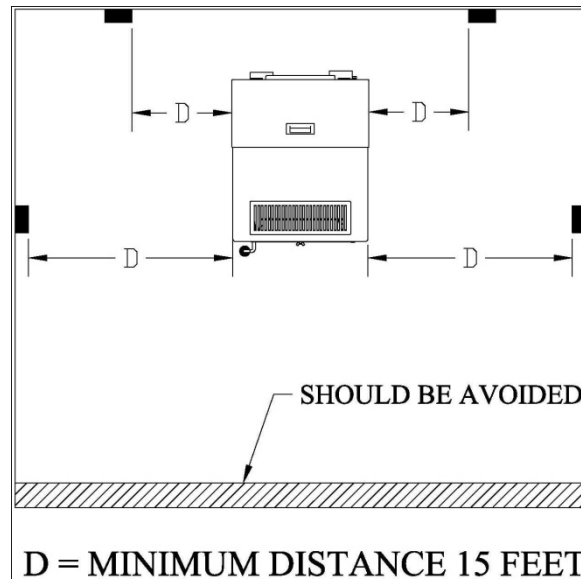

FIGURE 19
- If you are using a wireless wall thermostat or a hand held thermostatic remote control, you can locate the receiver behind the stove's back panel, on the right end side, just below the terminal block. Most receivers are already equipped with quick-connect terminals. Simply unplug the PC board wires connected to the back of the terminal block and connect them directly with the receiver's terminals. Location of the thermostat is very important to obtain the best comfort and efficiency from your ECO-65. The thermostat should be mounted 50 inches from the floor on a wall located 15 to 20 feet from the stove. You should avoid an installation directly in front of the stove to avoid cycling. (See figure 19)